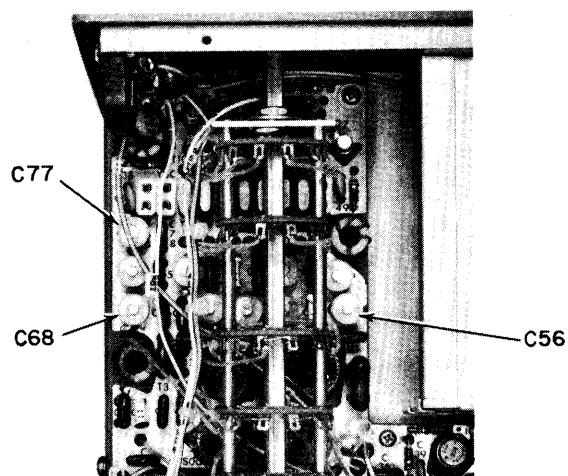

Figure 5-18. Location of C56, C68, and C77 on Front End Board
- f. Tune the applicable trimmer capacitor (see Figure 5-18) listed in Table 5-2 for a zero beat with the calibrator output.